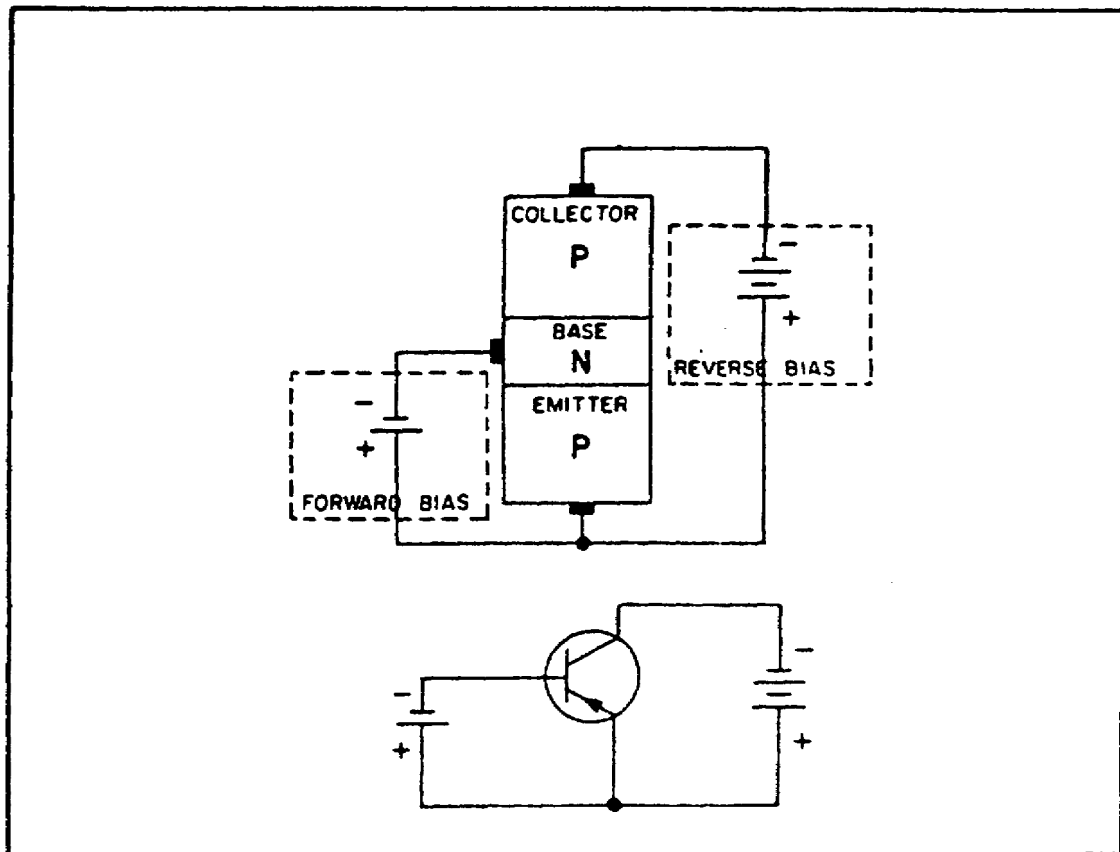

FIGURE 92. PROPERLY BIASED PNP TRANSISTOR.
g. *PNP Transistor Operation.* PNP transistor operation is essentially the same as the NPN operation except the majority current carriers are holes and the bias batteries are reversed. Figure 92 shows a typical bias setup for the PNP transistor.